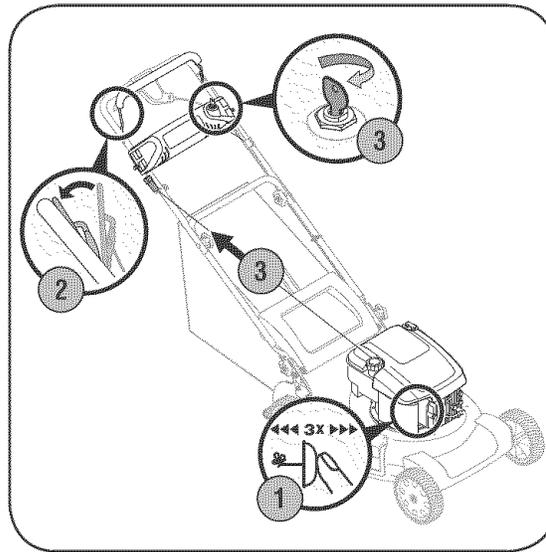

Figure 4-2: Starting the mower.
1. Push primer three times. Wait about two seconds between each push, Figure 4-2. In temperature around 55°F or below, prime five times. Do not prime to restart a warm engine.
2. Standing behind the mower, squeeze the blade control against upper handle, Figure 4-2.
3. **Recoil Start:** Grasp recoil starter handle and pull rope out with a rapid, continuous, full arm stroke, Figure 4-2. Keeping a firm grip on the starter handle, let the rope rewind slowly. Repeat until engine cranks. Let the rope rewind each time slowly.
Electric Start: Turn ignition key to the right to start the engine, Figure 4-2. Release the key after the engine starts.